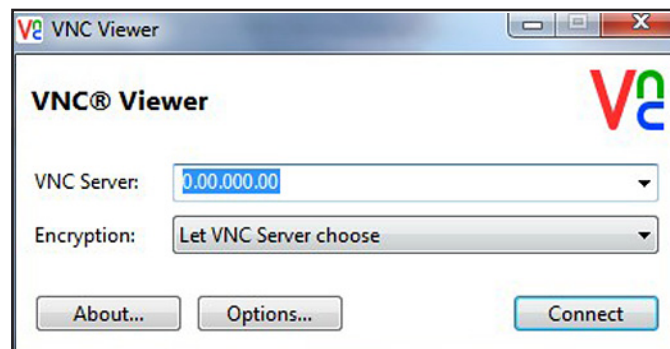

Figure 74: VNC Viewer Screen
5. From the **PC**, go to the **RealVNC** web site and download the *VNC Viewer*. Then, launch the *VNC Viewer* and enter the recorded moisture.IQ *IP Address* when prompted (see *Figure 74* below). Click the **Connect** button.